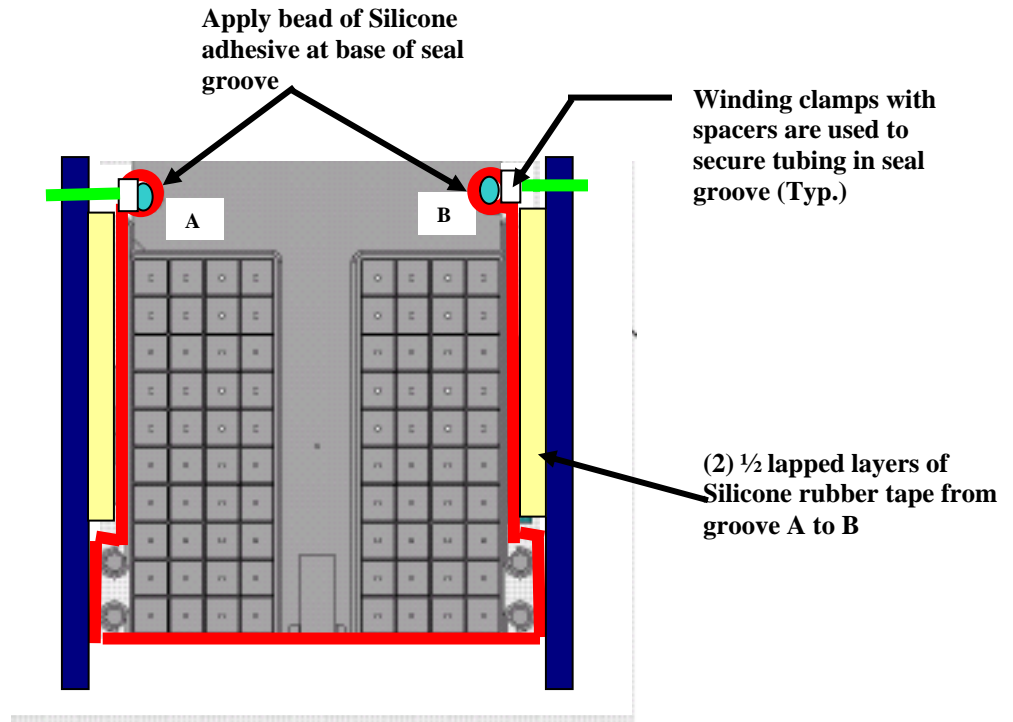
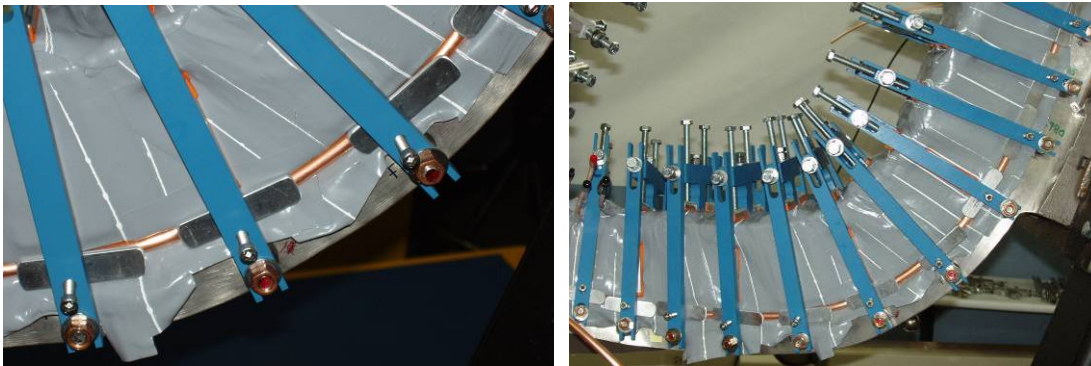

Figure 51- Installation of Bag Mold
Figure 52- Silicone Bag Mold
- 6.49.7 Apply (2) half-lapped layers of the silicone rubber tape over the modular coil bundle chill plate and cooling tube assembly. The silicone tape extends from the Side “A” seal groove across the top to the Side “B” seal groove. Apply bead of adhesive RTV caulking in the seal groove prior to positioning the silicone tape. (Figure 51- Installation of Bag Mold & Figure 52- Silicone Bag Mold)
- 6.49.8 Hold the silicone rubber bag mold in the groove using 5/16" (or 3/8 inch) refrigeration tubing. Use the special VPI winding clamps with spacers to hold the tube in place. (Figure 51- Installation of Bag Mold & Figure 52- Silicone Bag Mold)